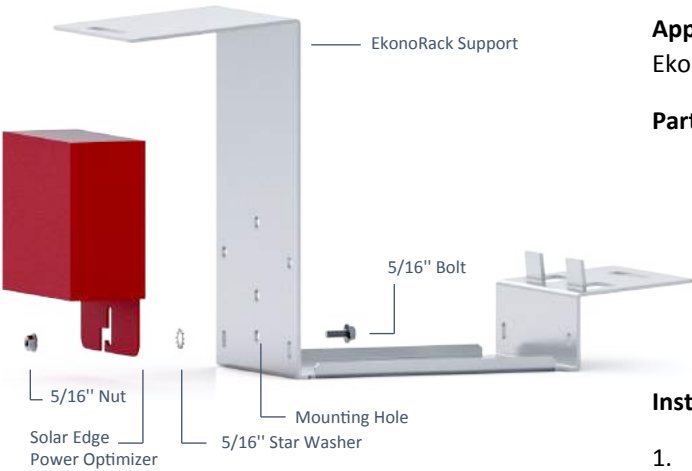

Figure 1 - Configuration A Schematic
1. Refer to Figure 1 for setup.